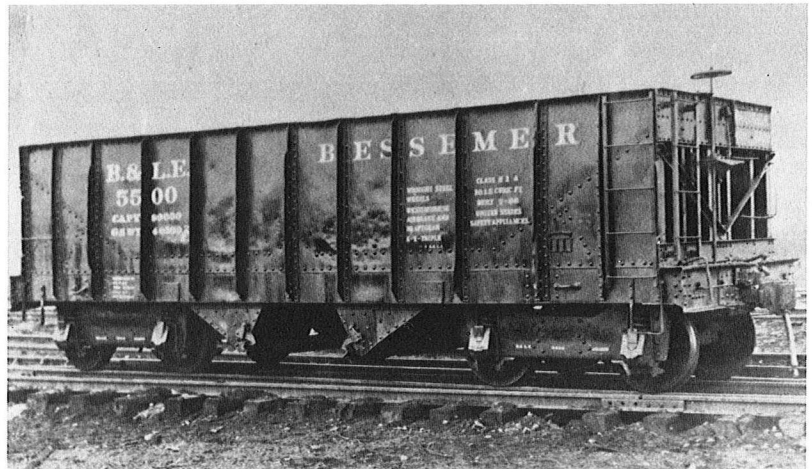

Figure 1. Type I - One of two experimental cars built in 1896, photographed on its 20th anniversary. A.J. Colantuono.
The first all-steel hopper cars were built by Carnegie Steel Co. in its Keystone Bridge Works in 1896. The photo (fig.1) shows one of the pair built on the occasion of its 20th anniversary. At the time, Carnegie owned the Pittsburgh, Bessemer & Lake Erie. Quite naturally the cars were tested on this road and deemed such a success that an order for 600 steel cars was placed with the Schoen Pressed Steel Co. in 1897. Two different types were ordered. The first were 400 50-ton cars of the (slightly modified) original design built from structural steel shapes. The second were 200 40-ton cars as shown in figure 3. The pressed steel car proved much easier to build and maintain and became the standard design for years to come. Although nominally 40- and 50-ton capacity, they were small in size because all they carried was iron ore.
- Figure 1.....Type I